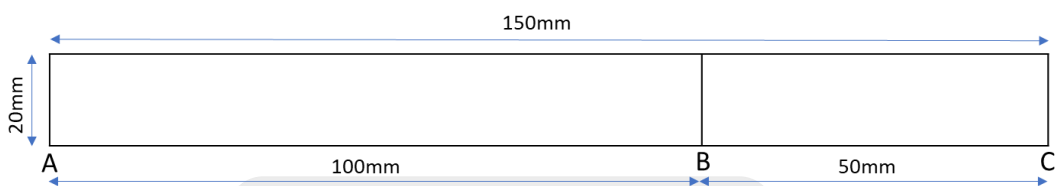

Figure 1
4. **Draw the rectangle over work piece:** Refer figure 1 below for dimensions. Height of the rectangle should be little more than desired bead width.